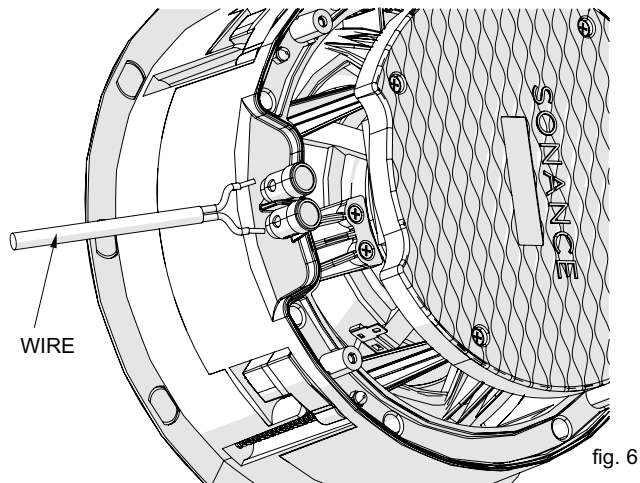

fig. 6
- Connect the loose end of the speaker wire to the speaker before inserting the speaker into the surface opening. (fig. 6)